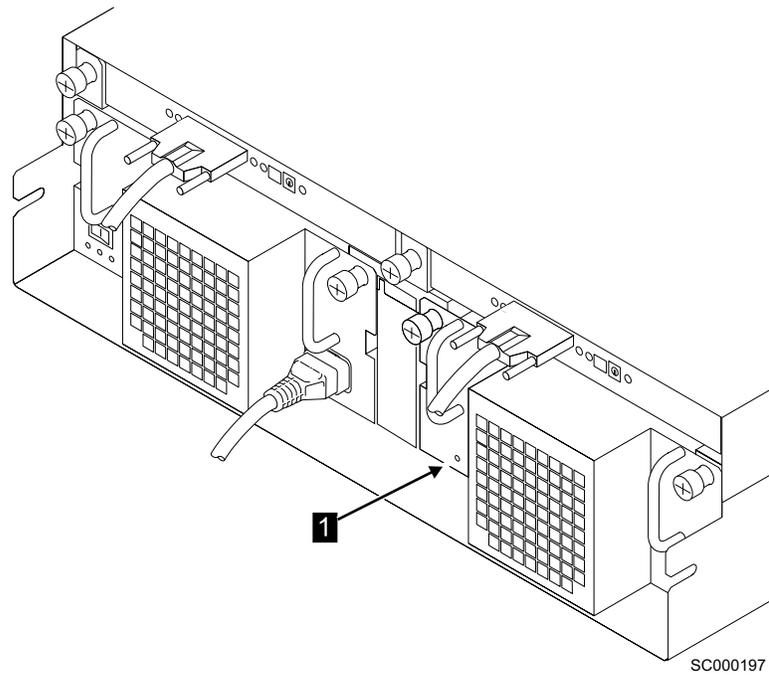

Figure 66. Fan assembly light
6. Verify that the amber CHK light **1** is off. See Figure 66.